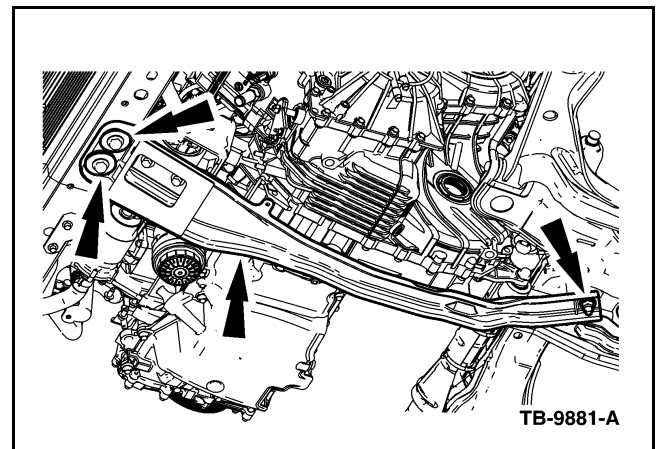

Figure 3 - Article 09-22-19
4. Remove the nut, bolts and engine support crossmember. Discard the nut. (Figure 3)
5. Replace the engine support crossmember with improved service level crossmember. Tighten the bolts to 66 lb-ft. (90 N•m), tighten the new nut to 129 lb-ft. (175 N•m). (Figure 3)